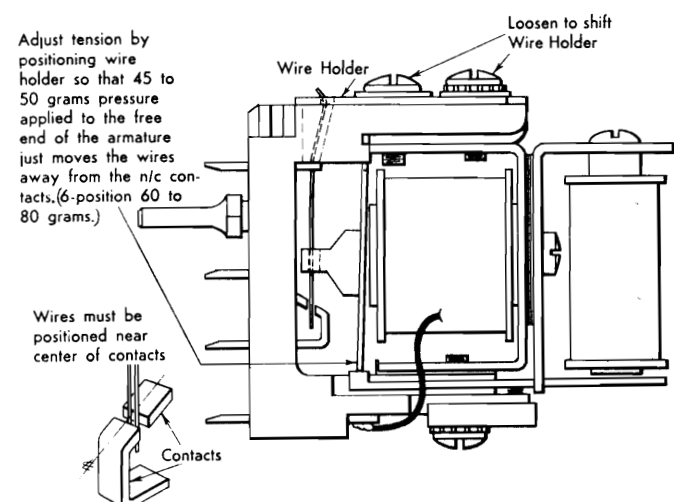

Figure 23. Adjustments 3 and 4
3. Figure 23. With the contact wires in place see that they are centrally located on the contact strap. Armature end shake must not permit the wires to move within 1/64" of the sides of the contact straps.
4. Figure 23. Adjust tension on the contact wires by shifting the wire holder so that a 45 to 55 gram pressure applied at the center of the free end of the armature just moves the wires away from the contacts on